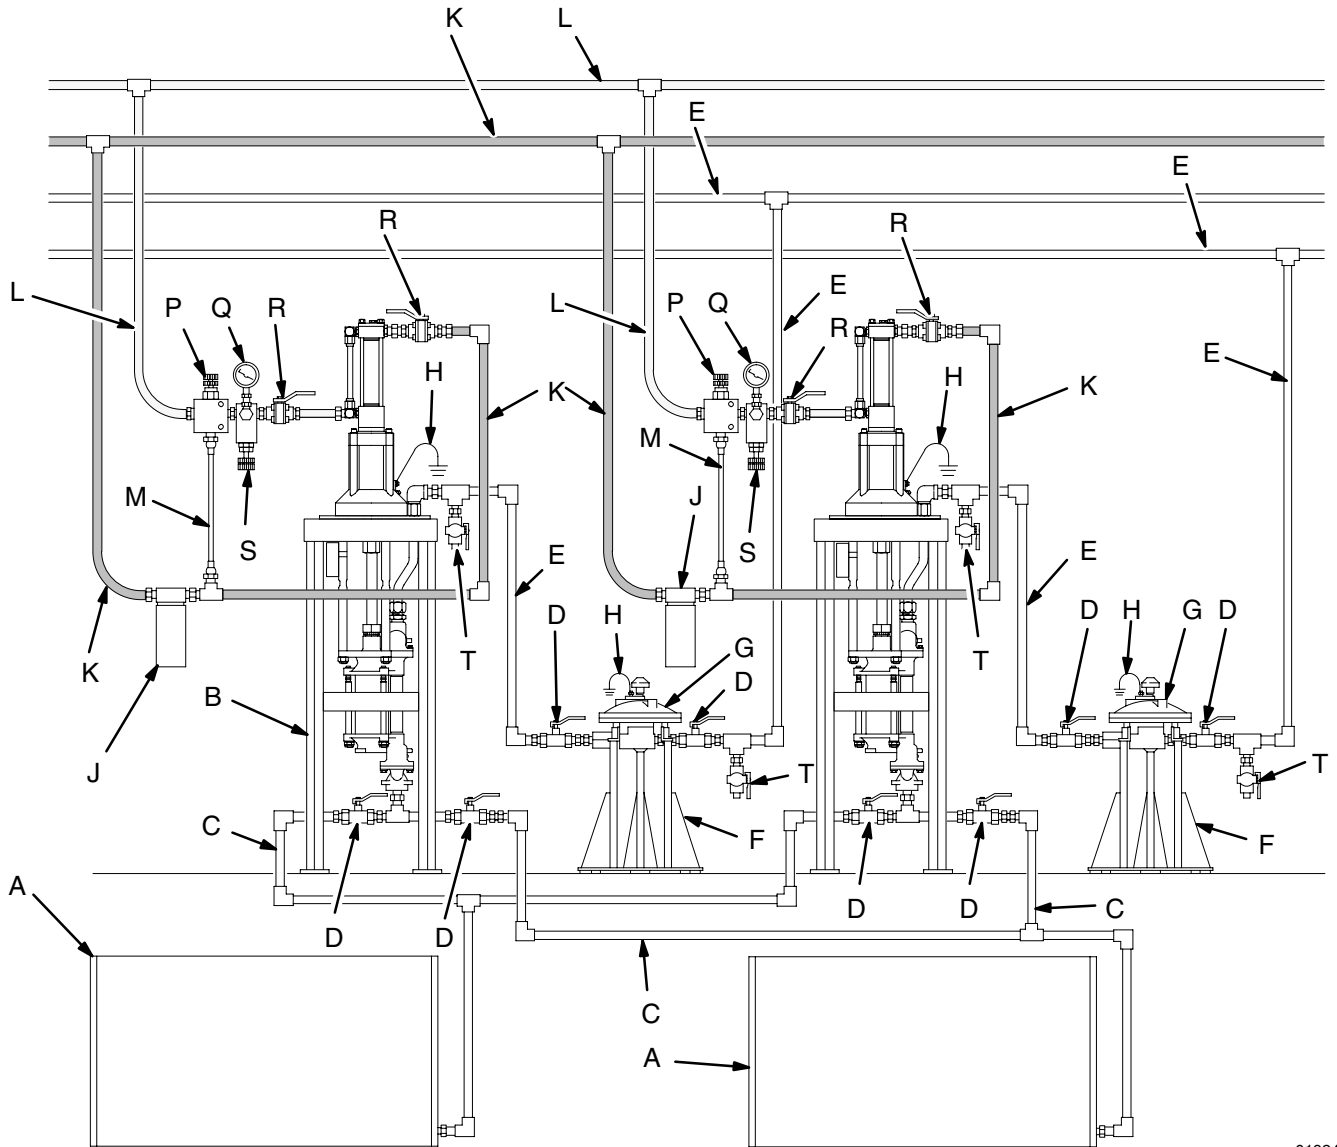

Fig. 3
**NOTE:** The motor's hydraulic inlet is 3/4 in., 37° flare. Use a minimum 13 mm (1/2 in.) ID hydraulic supply line (L).
1. The shutoff valve (R) isolates the motor when servicing the system. See Fig. 3.
2. The hydraulic fluid pressure gauge (Q) monitors the hydraulic oil pressure to the motor. This helps avoid overpressurizing the motor or displacement pump.
3. The pressure- and temperature-compensated flow control valve (S) prevents the motor from running too fast, which can damage it.
4. The pressure reducing valve (P) which has a drain line (M) running to the return line (K), controls the hydraulic pressure to the motor.